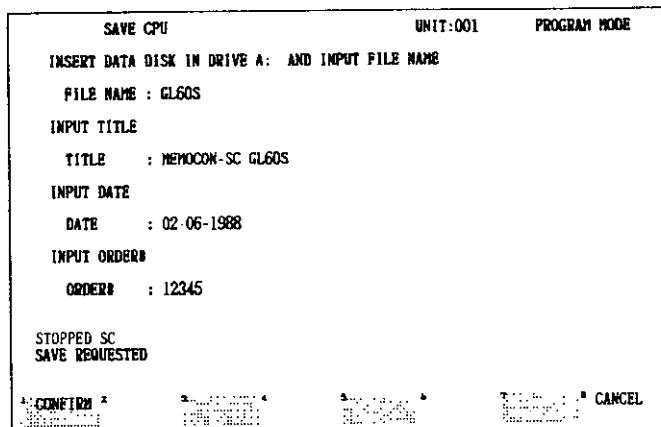

Fig. 3.58
5. Date can be input in the form "88-02-06" or "88/02/06" in addition to the example shown in Fig. 3.58.